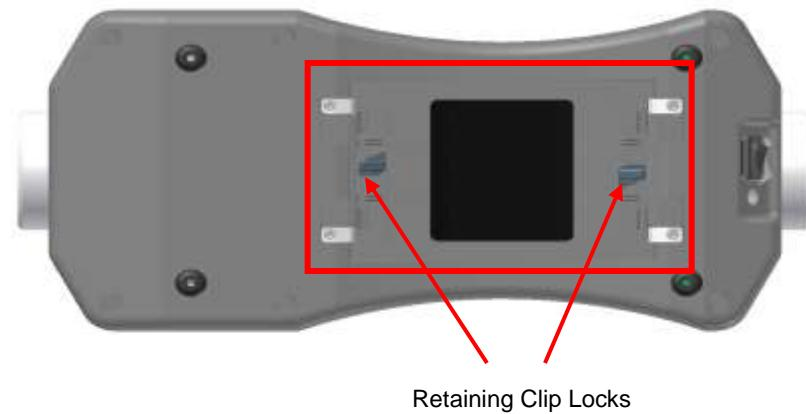
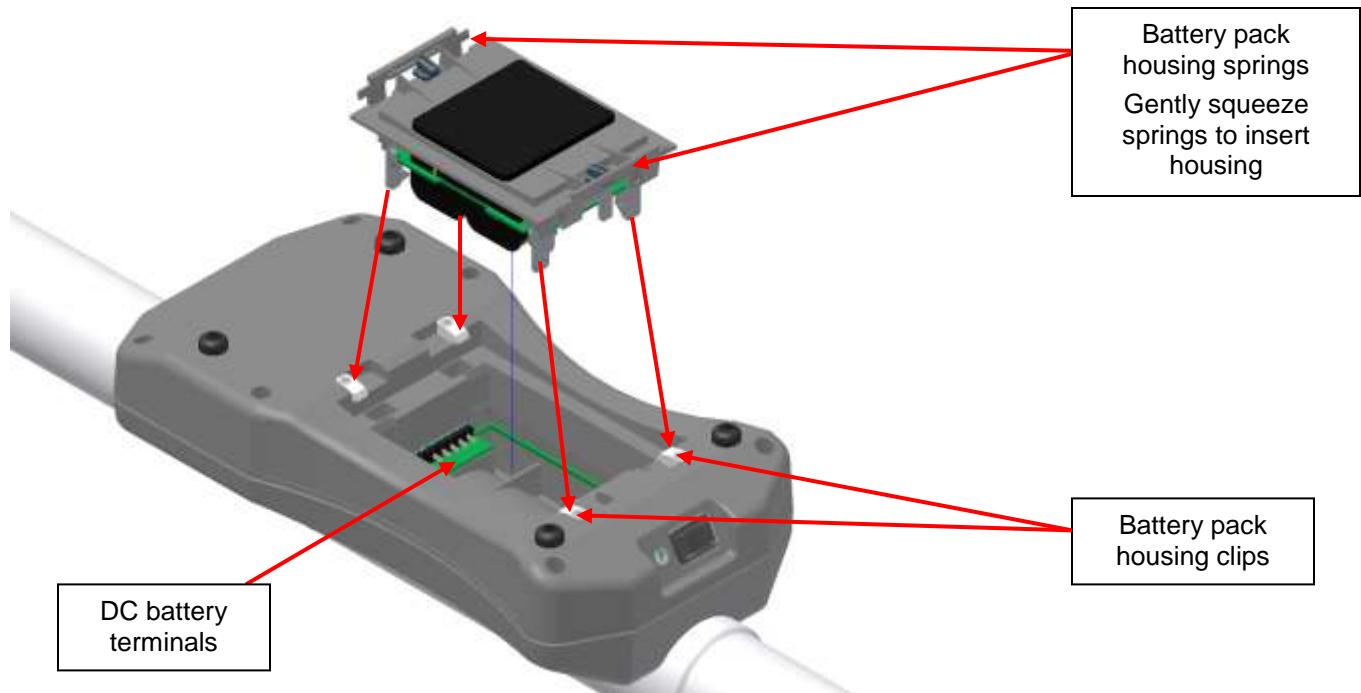

Figure 4: EMP-400 Electronics Assembly bottom view showing the location of removable battery pack outlined in red.
Figure 7: Inserting the removable battery pack into the EMP-400 electronics.
The EMP-400 is powered by re-chargeable Li-Ion batteries. The batteries are accessible via the removable battery pack located on the bottom of the electronics assembly (Figure 4).
The EMP-400 battery pack is removed from the unit by **gently** pulling the removable battery pack retaining springs towards each other (towards the center of the battery pack) until they snap out from beneath the four (4) delrin retaining clips screwed into the bottom of the EMP-400 electronics assembly (Figure 4 above and Figure 7 below). The locks on the battery pack retaining clips prevent the clips from accidentally opening when the EMP-400 base brushes against tall grass, field stubble or other surface objects. Engage the locks by turning the clip locks 90 degrees clockwise. The operator can use the reverse end of the PDA stylus to turn the locks.
- A full battery is indicated by five (5) rectangular squares located on the battery gas gauge on the end of the battery opposite the five (5) battery contact slots.
- The removable battery pack also accepts eight (8) AA 2500 NiMH batteries for system power backup when the Li Ion batteries are recharging. The operating time for AA batteries at one measurement per second at an ambient temperature of +25°C:
3. Press gently on the top of the battery pack until the retaining springs click into place (Figure 7). Be certain the clip locks have been rotated counter-clockwise (unlocked) before pressing on the retaining springs.
- The pack can be removed by gently pinching the battery pack housing springs until the springs un-snap from beneath the four white battery pack housing clips (Figure 7).